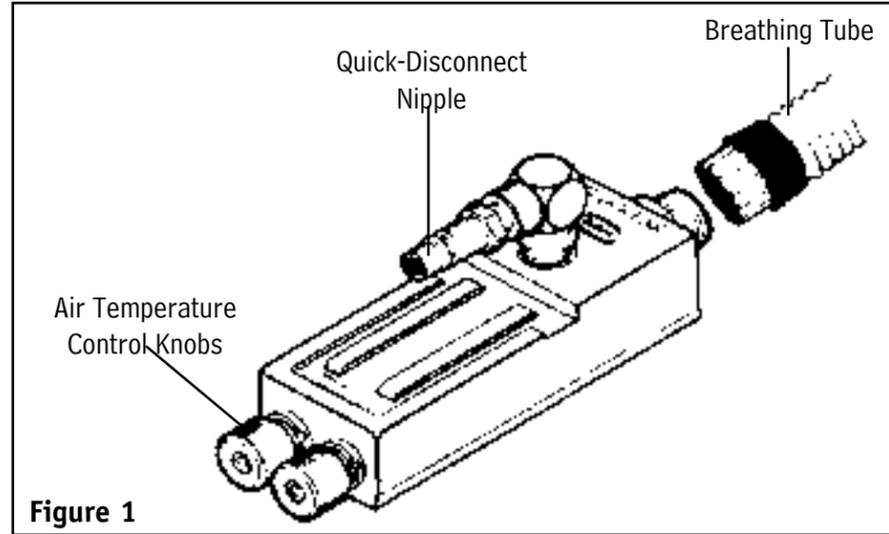

Figure 1
The vest should mount over the belt with the Dual-Cool unit positioned in the "V" of the vest found on the right-hand side (**Figure 1**).
- To obtain cooler air, turn either or both of the air temperature control knobs clockwise (Figure 1).